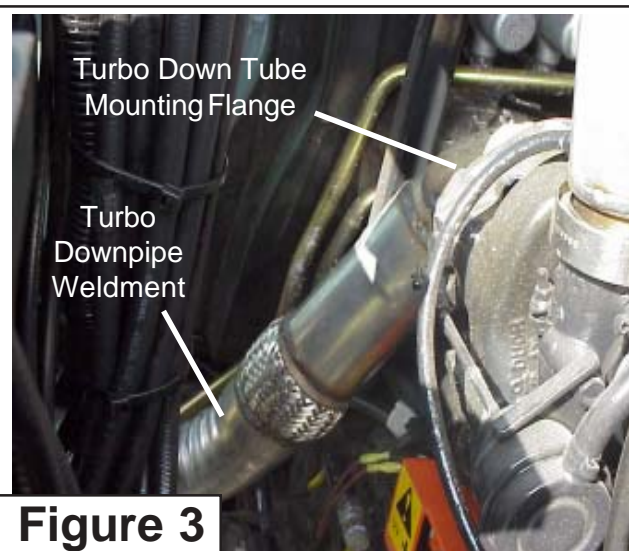

Figure 3
2. Remove the fuel sending unit from the factory tank. The factory fuel sending unit for the fuel level gauge will be reused, it will bolt into the replacement tank with out any modifications (See Figure 3). Note the replacement tank will come to you all ready painted but it may require touching up after mounting.